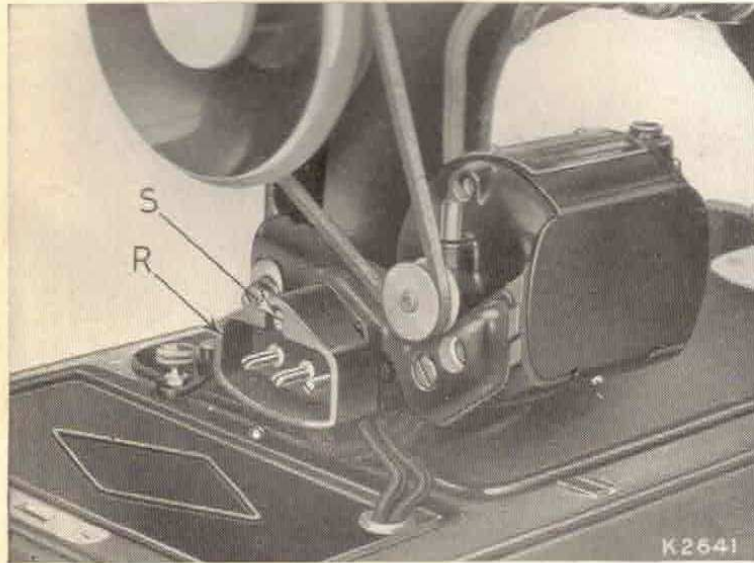

Fig. 6.
Remove the terminal block (R, Fig. 6) by taking out the screw (S, Fig. 6). Then remove the three insulated thumb nuts (U, Fig. 7); also the three
Replace the three brass washers (V) and the three thumb nuts (U), tightening the latter securely; then, with the screw (S), fasten the terminal block to the motor bracket, as shown in Fig. 6, and insert the socket plug into the three-pin terminal. To this plug is attached the supply lead.